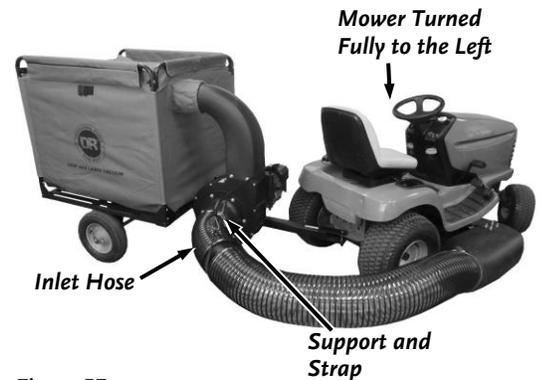

Figure 57
1. Install the Deck Adapter onto your Lawn Mower (**Figure 57**).
3. Turn the Tractor as far as it will go to the left ensuring that the Tractor is not touching any portion of the Leaf Vacuum (**Figure 57**).
**Note: The Tractor must be turned fully to the left (Figure 57).**